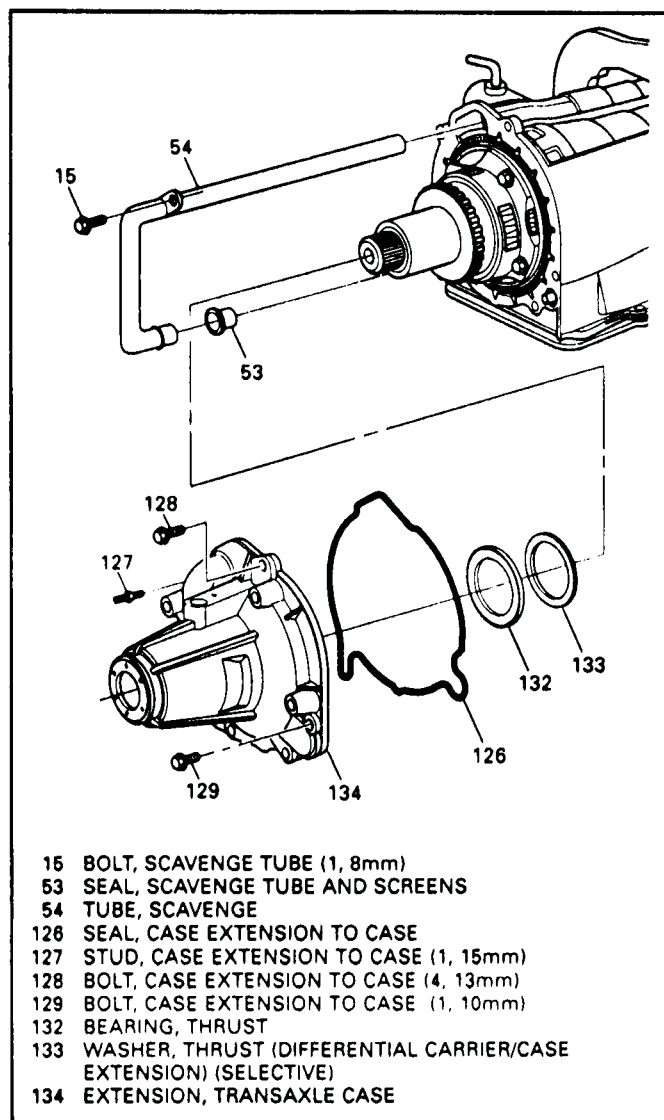

Figure 43
1. Remove four 13mm bolts, one 10mm bolt, and one 15mm stud from case extension as shown in Figure 43.
4. Remove the 8mm bolt that retains the scavenge tube in case (See Figure 43).
5. Remove scavenge tube by prying on the differential with screwdriver. (See Figure 43).
6. Remove and discard scavenge tube seal. (See Figure 43).